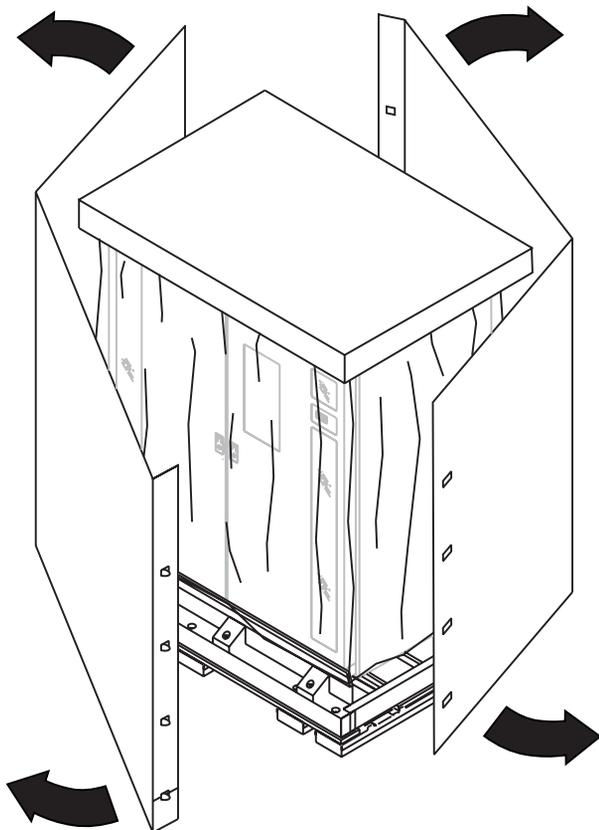

Figure 4-4: Removing the cardboard box
6. Unwrap the cardboard box from the library (see Figure 4-4).